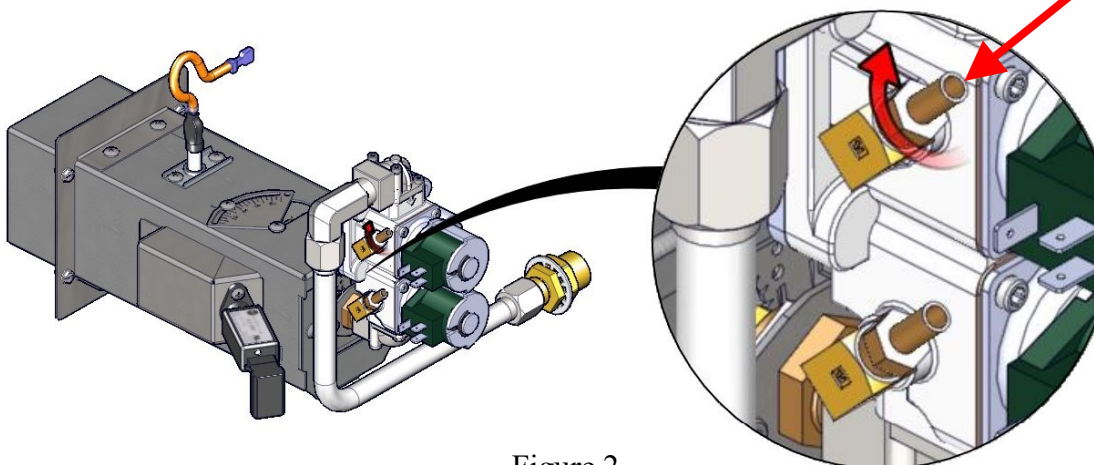

Figure 2
- Tighten screw clockwise until snug (Figure 2).